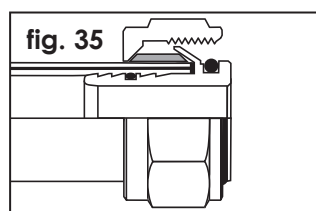

fig. 35
d) Push the fitting as far as it will go into the pipe (fig. 35).